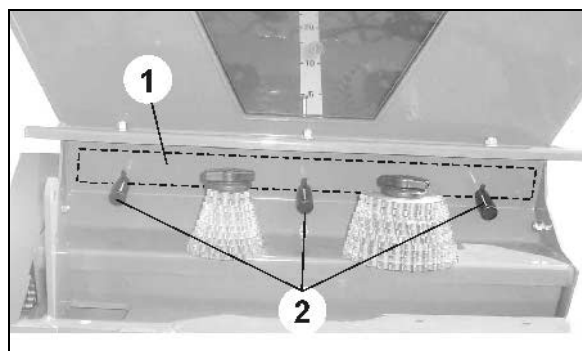

Fig. 35
- o the emptying shutter (Fig. 35/1) is closed (lower position) and the bolts (Fig. 35/2) are tightened.